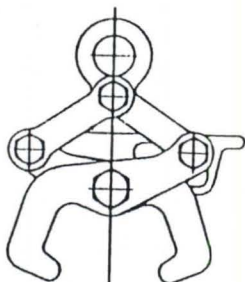
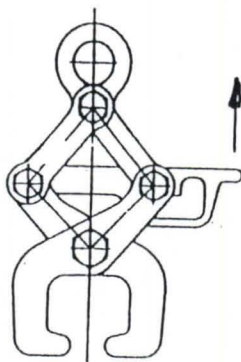

Fig. 1
Fig. 2
2. In case of Fig. 1, start to operate from procedure No.4.
3. In case of Fig. 2, after landing clamp, pulling the lever up to the direction of arrow and lowering shackle link, the gripping claws are open and in the state as shown in Fig. 1.
4. In the state as shown in Fig. 1, lift and move clamp onto rail.